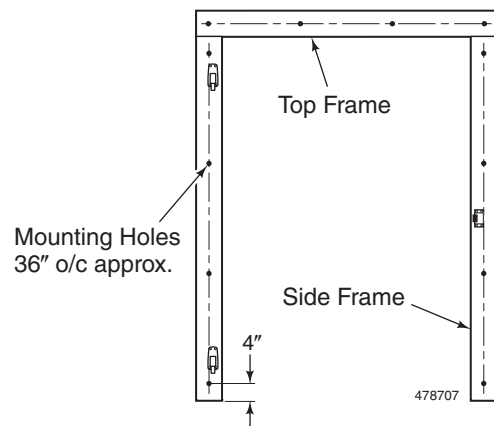

Figure 4
2. At job site, drill 5/16" holes (7/16" for threaded rods) through the frame for mounting to the backing in the wall. Space holes 4" in from the end, then every 36". See *Figure 4*.